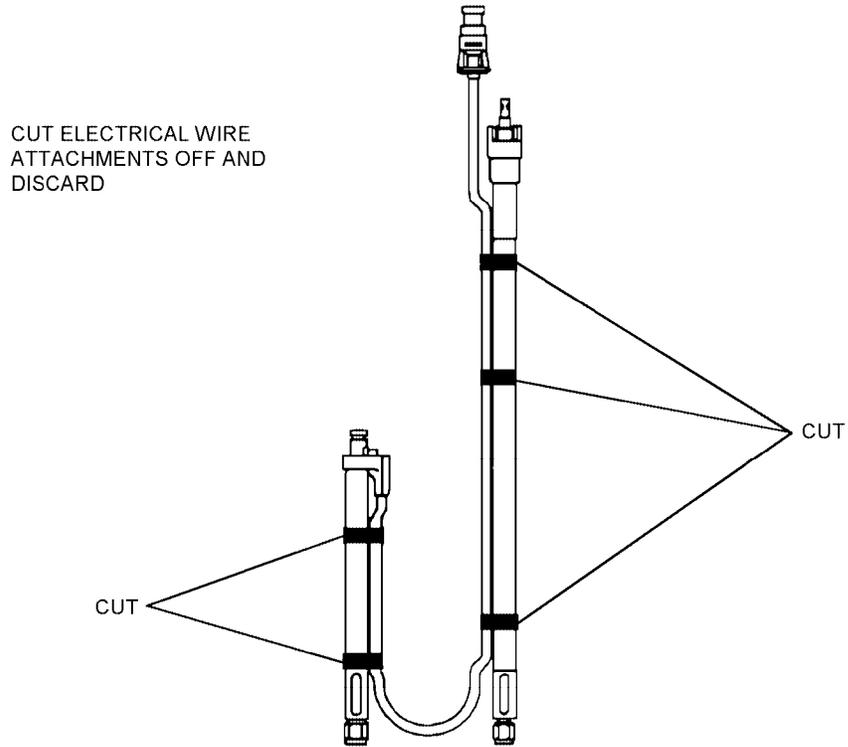

Figure 4-44. Trim Wire Keepers
a. Trim silicone rubber wire keepers from existing hose assembly (figure 4-44) and discard.
a. Trim silicone rubber wire keepers or cable tie (if ACB 622 is installed) from existing hose assembly (figure 4-44) and discard.